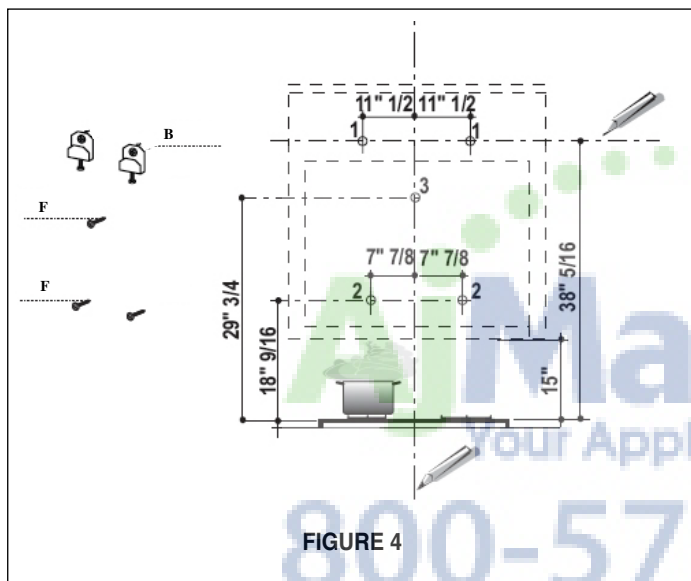

FIGURE 4
3. Draw a horizontal line at $38\frac{5}{16}$ " above the cooktop (as indicated in **FIGURE 4**). Mark two points (1) (in **FIGURE 4**) on the horizontal line, $11\frac{1}{2}$ " away from the center line on each side. Make sure both marks are level.
4. Mark two points (2) (in **FIGURE 4**) which are $18\frac{9}{16}$ " above the cooktop, and are $7\frac{7}{8}$ " on either side of the center line. Make sure both marks are level. Drill holes in marks 1, 2 and 3